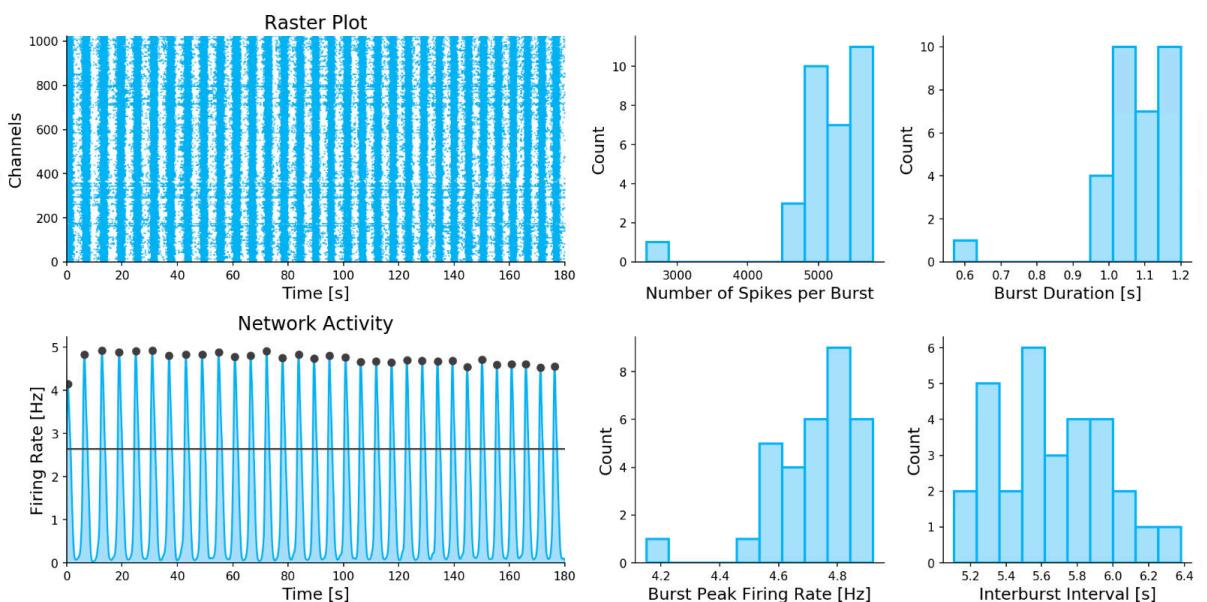
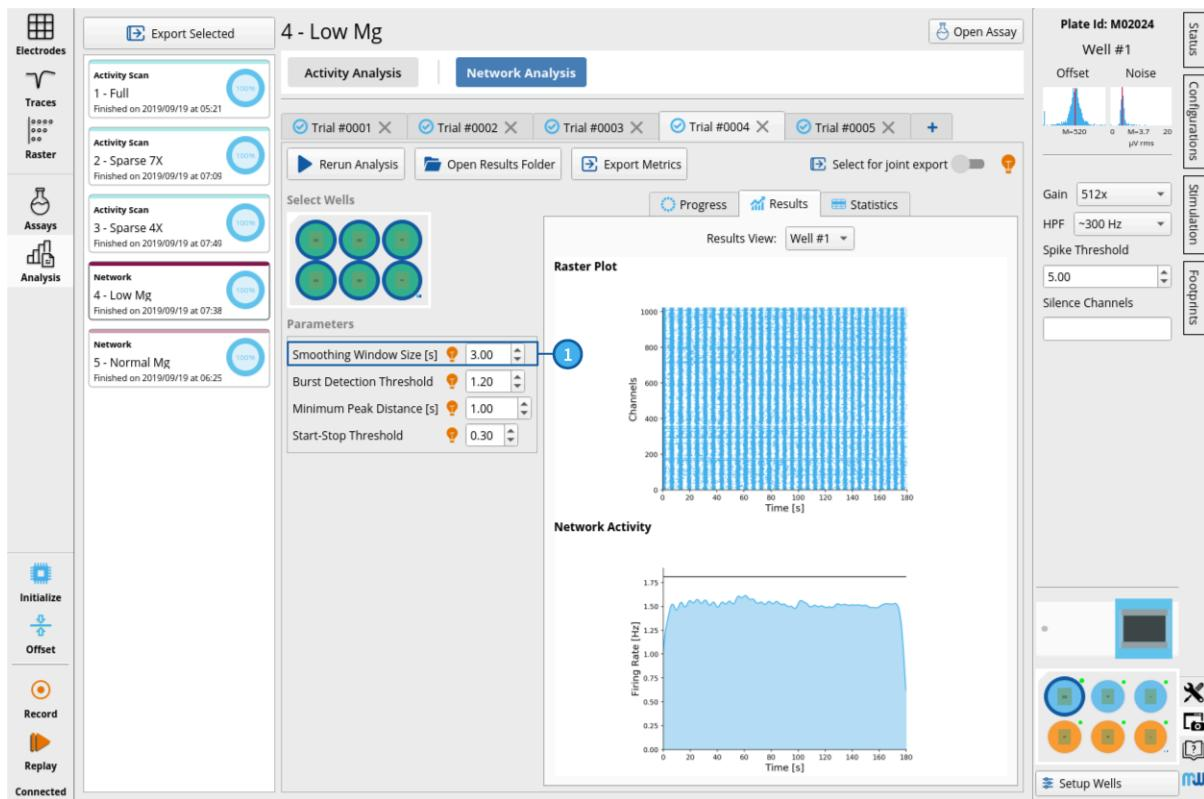

Figure 9.7. Network Analysis Results
Figure 9.9. The Effects of Increasing the Smoothing Window Size
Several visualizations are provided to summarize the results of a Network Analysis. Figure 9.7, which can be obtained by opening the Analysis Folder for each well that was analyzed (Figure 9.6 (3)), shows a raster plot from all the recorded electrodes and a corresponding Network Activity plot with all the bursts that have been detected. In addition, four histograms show the distributions of the number of spikes per burst, the burst duration, the burst peak firing rate, and the interburst interval.
The Smoothing Window Size [s] affects the Network Activity plot (see Figure 9.7), which is the basis for burst detection. The network firing rate is calculated by pooling spikes from all the simultaneously-recorded electrodes of a Network Recording, applying a Gaussian kernel to the resulting histogram, and normalizing by the total number of recorded electrodes. The Smoothing Window Size is the kernel standard deviation: the higher it is, the stronger the smoothing. For example, when the smoothing window size is increased ten times, from the default of 0.3 s to 3.0 s, the smoothing becomes so strong that the burst peaks are no longer apparent in the Network Activity plot (Figure 9.9; compare with same data in Figure 9.6, which was generated with the default parameter values). **Note:** when no bursts are detected, the histograms of the various burst parameters are not shown and the statistics table is also not available. Thus, the Smoothing Window Size should be adjusted so that the spike clusters in the raster plot match the peaks of the Network Activity plot.